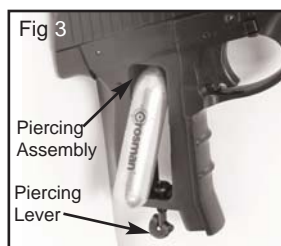

Fig 3
- Insert a new CO₂ cartridge into the airgun with the small neck of the cartridge pointing toward the piercing assembly (Fig. 3).